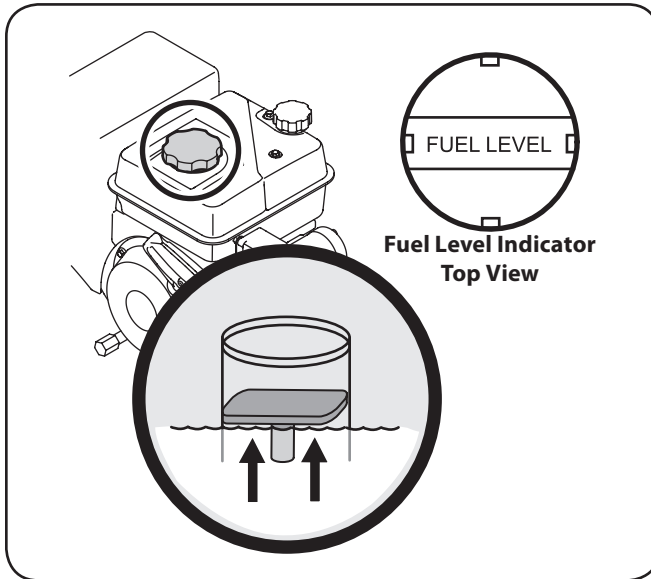

Figure 3-3
2. A fuel level indicator is located in the fuel tank. Fill tank until fuel reaches the fuel level indicator, Fig. 3-3. Be careful not to overfill.